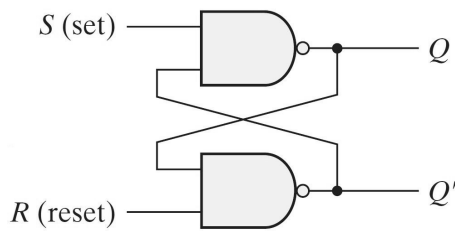

Fig.1: SR Latch with NAND gates
1. Realize the SR Latch in Fig.1 with **NAND gates** using your **SSI Library**. This module is going to have 1-bit inputs **S, R**, and 1-bit outputs **Q, Qn**. Connect these ports, **S, R, Q, Qn** to **SW1, SW0, LED1, LED0**, respectively.